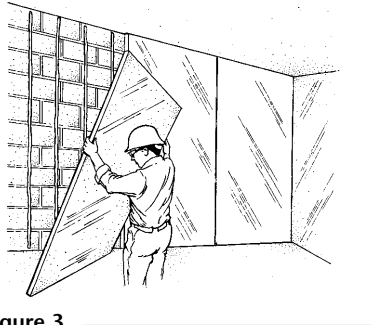

Figure 3
3. Press insulation board against the wall and butt board edges tightly together (Figure 3). Apply pressure to board until the adhesive is set. (Optional: Attach mechanical fasteners to the top and bottom of the board to hold it in place until the adhesive has set.)